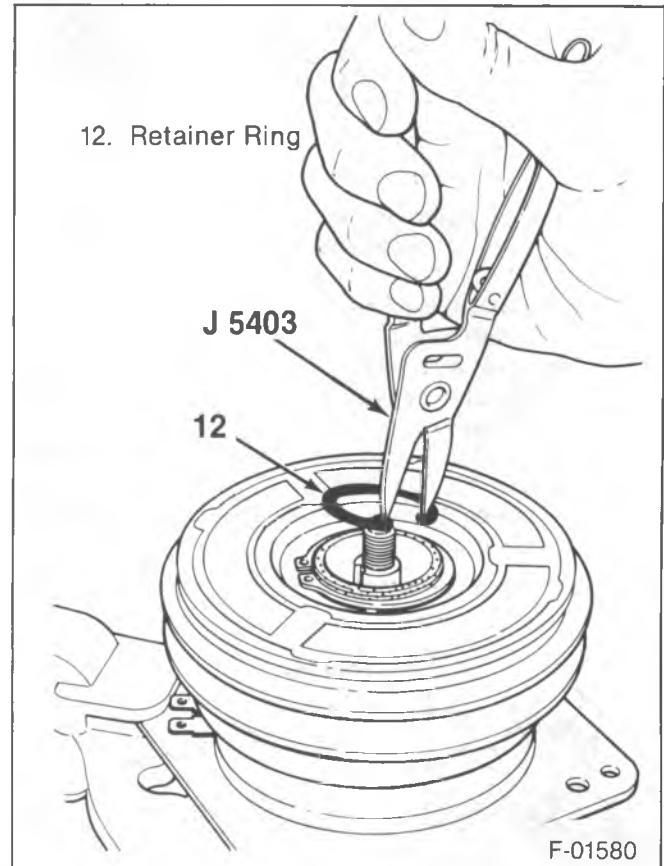
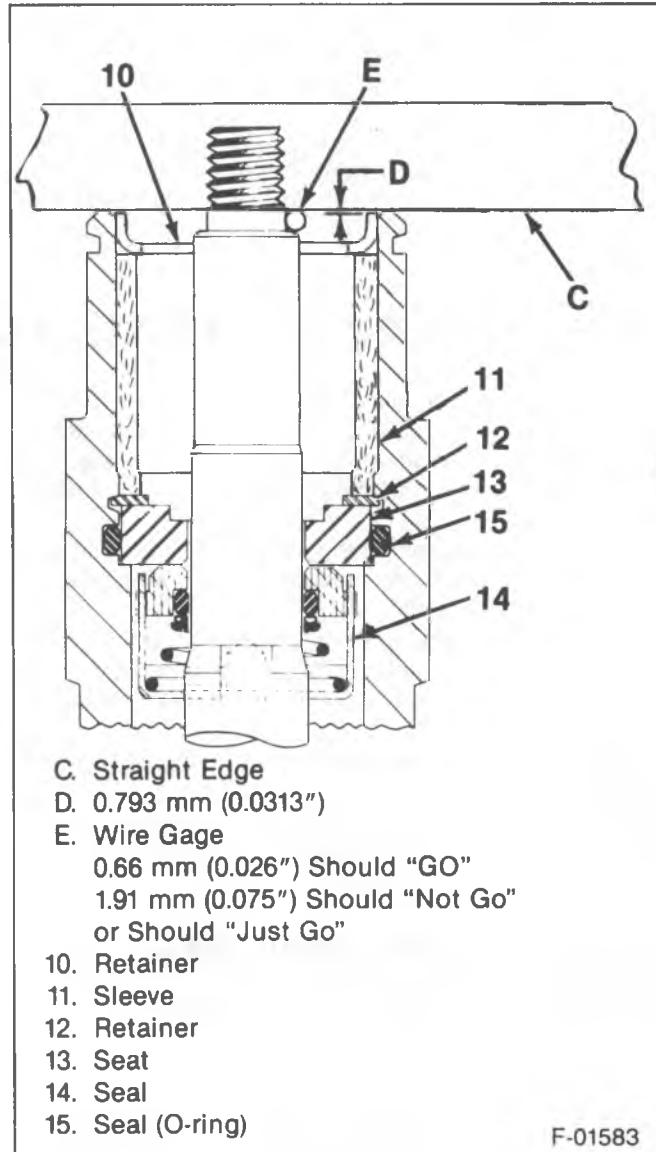

Figure 13—Removing/Installing the Shaft Seal Retaining Ring
Figure 16—Shaft and Seal Position and Correct Position Gaging Guide
- The inside of the compressor front head around the shaft (39). Prevent dust and dirt from entering the compressor.
2. Sleeve retainer (10).
3. Absorbent felt sleeve (11).
4. Shaft seat retaining ring (12) with J 5403 (figure 13).
- Do not dislodge the O-ring (15).
4. Seal shaft retainer ring (12) with J 5403 (figure 13).
6. New absorbent sleeve (11).
7. Sleeve retainer (10) with J 23128.
- Press and tap with a mallet to set the retainer and sleeve into place. Place the retainer 0.7937 mm (0.03125-inch) from the face of the compressor neck (figure 16).
8. Clutch plate and hub assembly (2).
- To check the position of the axial plate on the shaft, remove the clutch driven plate and measure the distance between the front head extension and the flat shoulder on the shaft with a wire gage. The clearance should be 0.66-1.9 mm (0.026-0.075-inch) (figure 16).
9. Shaft nut (1) with J 9399.
- Replace shaft nut (1) with a new one.